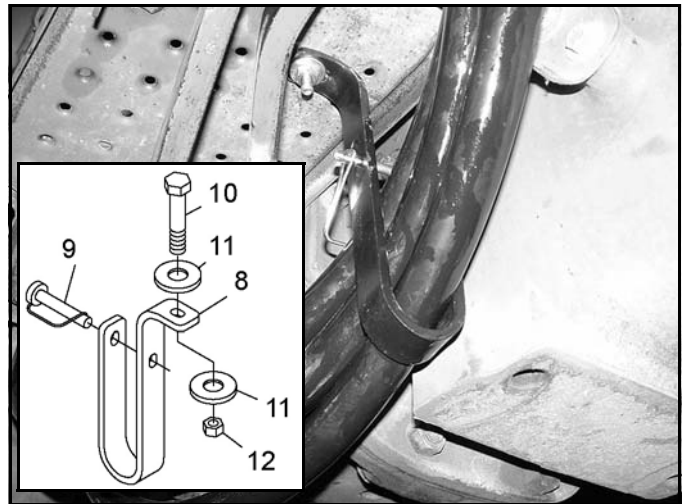

Figure 17. Hose Hanger Installed
1. Install hose hanger bracket (8) under platform between brake pedals and chassis as shown in Figure 17.
2. Secure with hex head cap screw (10), flat washers (11), and lock nut (12).